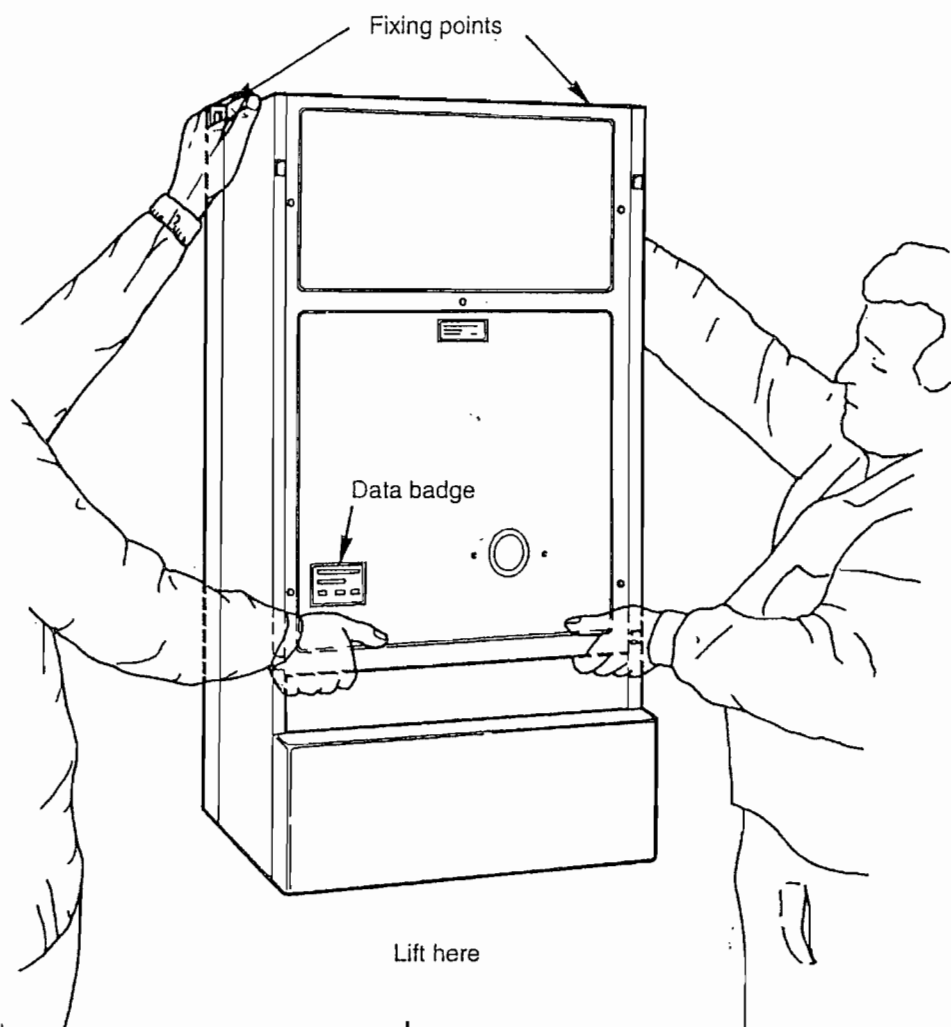

Fig. 15
- 5.4 Lift boiler as shown in fig. 15 onto the top studs and fit supplied nuts and washers hand tight.